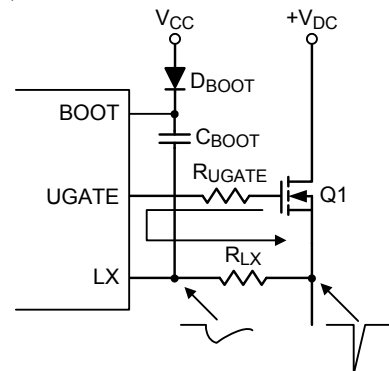

Figure 6. LX Pin Resistor
- ▶ In Figure 6, the LX pin voltage drop can be improved by adding R_{LX} ($R_{\text{LX}} = 1$ to 10Ω), because the dv/dt is affected by $(R_{\text{LX}} + R_{\text{UGATE}})$.